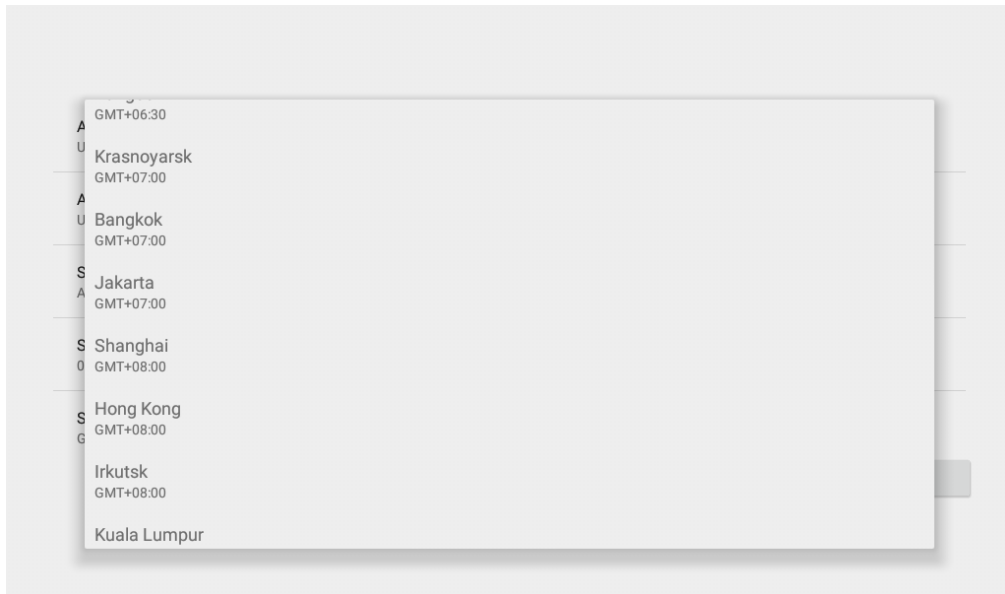

Fig 4.45 Select time zone
⑤“Select time zone”: Click it enter the time zone setting interface as Fig 4.45 below.